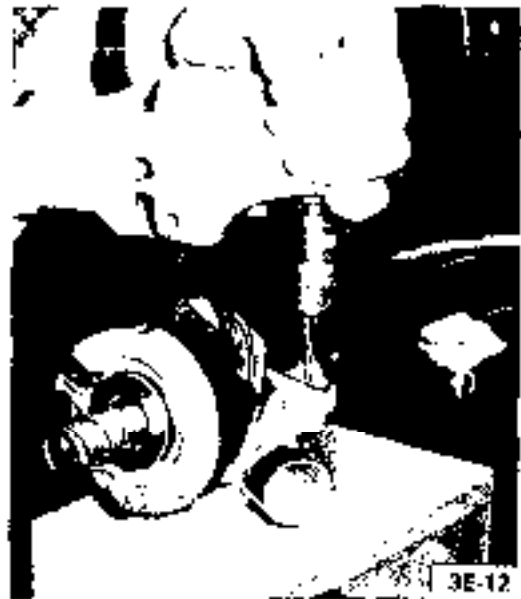

**Figure 3E-10 Lower Half of Signal Switch Housing Cover**
4. Unscrew lower half of signal switch housing cover. See Figure 3E-10.
5. Remove hex nut from steering mast jacket attachment at front of dash panel. See Figure 3E-7.